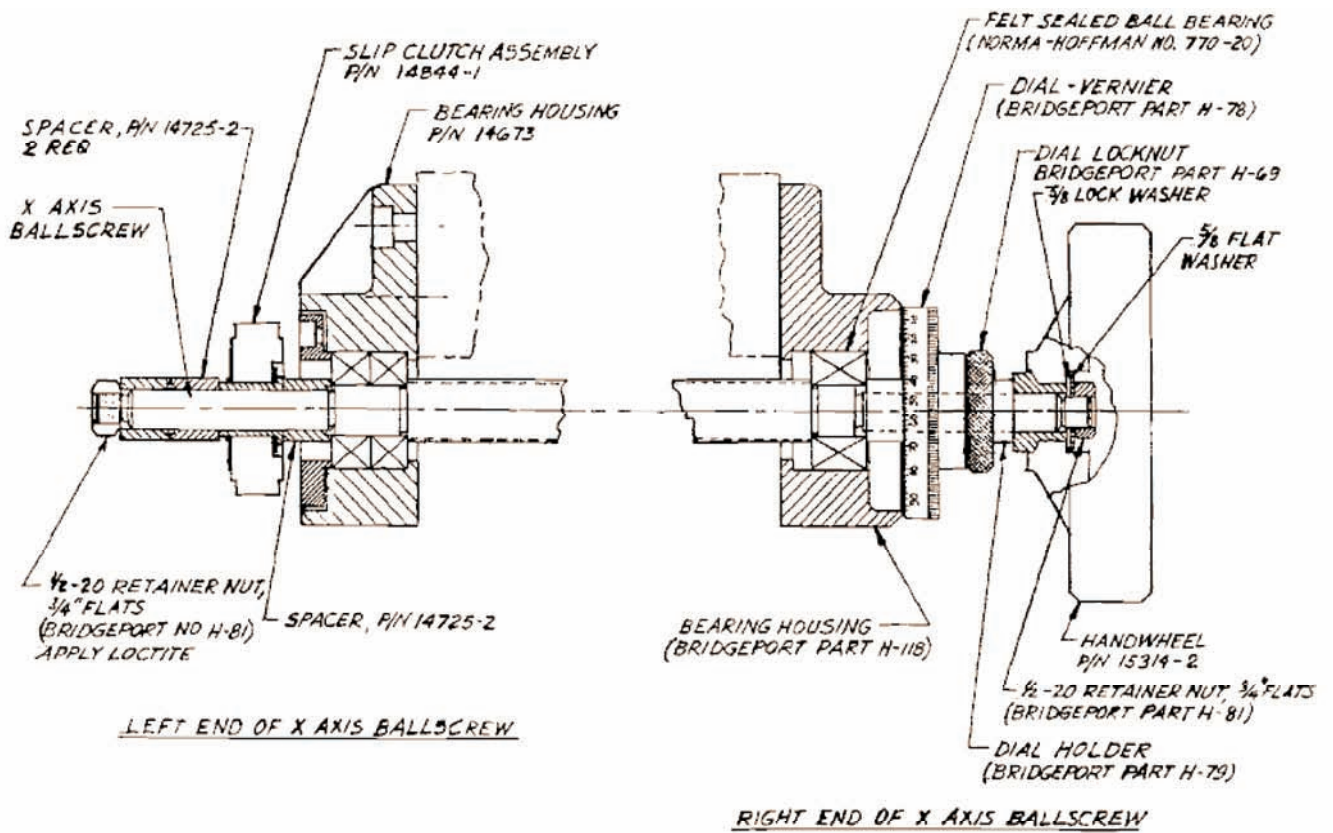

Figure 2-12
- b. Bearing housing (item 1)
- c. Bearings and shim (items 20, 21)
- d. Bearing retainer ring (item 16)
- e. Slip clutch belt (items 11, 19, 28)
- f. Servo motor adapter bracket (item 5)
29. Install the original machine right side assembly and the SWI provided handwheel as per Figure 2-12. Tighten 1/2-20 nut to 50 ft/lb. (If the machine had a power feed, use the hardware from the left side).